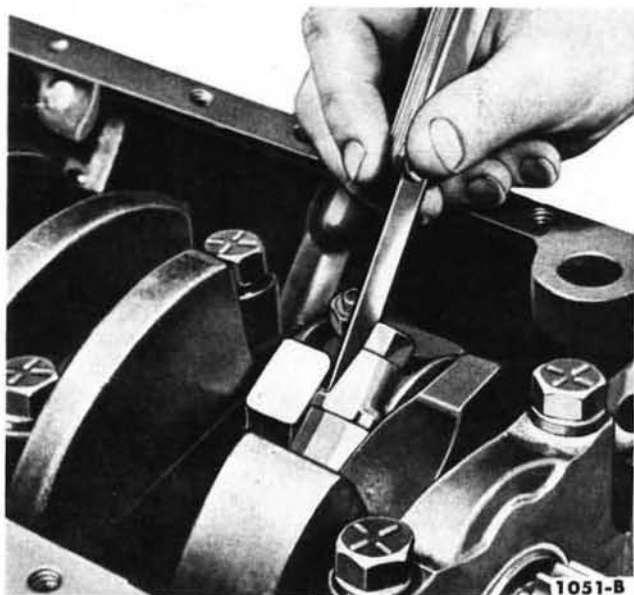

FIG. 66—Connecting Rod Side Clearance—Typical
5. After the piston and connecting rod assemblies have been installed, check the side clearance between the connecting rods on each connecting rod crankshaft journal (Fig. 66).